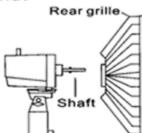

Fig. 2
- 02.** Put rear grille on motor shaft and secure with rear mounting nut. (Fig2)